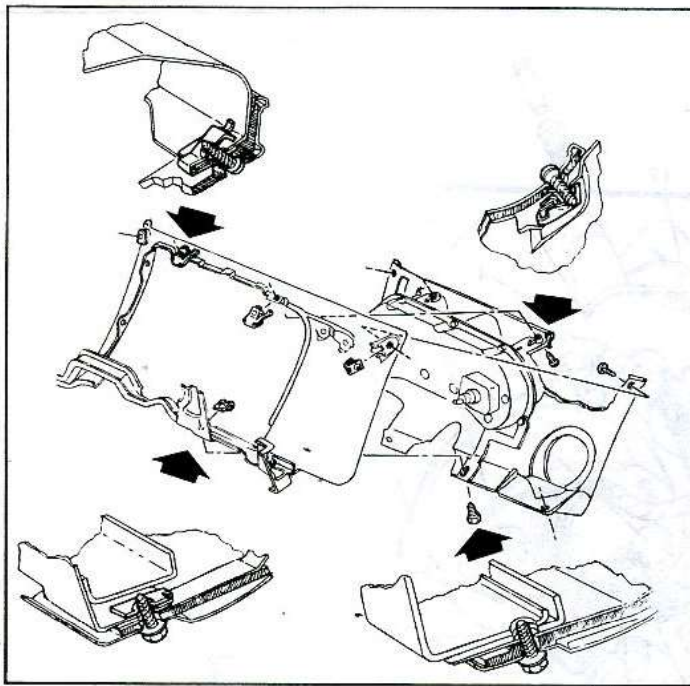

Fig. 24—Instrument Cluster Attachment
6. Remove screws retaining instrument cluster assembly to console (fig. 24).